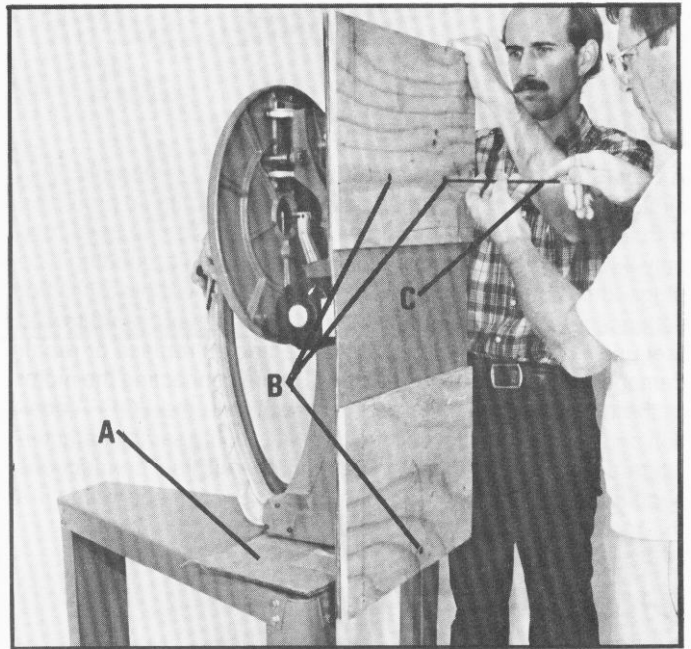

Fig. 8
1. Place a piece of cardboard (A) on the top shelf of stand, as shown in Fig. 8.
2. Place the rear end of the saw on the cardboard and while one person holds the saw, remove the three screws (B) as shown in Fig. 8.